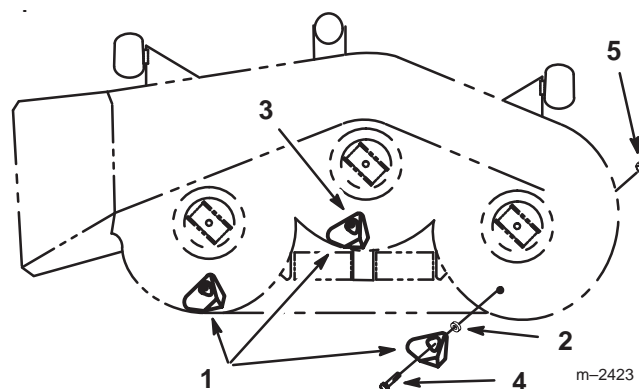

Figure 1
4. Place the spacers and kickers inside mower, over the holes provided (Fig. 1).
5. Secure the two outside kickers with 2 bolts (5/16 x 1 inch), with the bolt heads inside the mower, and 3 lock nuts (5/16 inch) (Fig. 1).
6. Secure the middle kicker with 1 bolt (5/16 x 1 inch), with the bolt head on the outside of the mower, and 1 lock nut (5/16 inch) (Fig. 1).